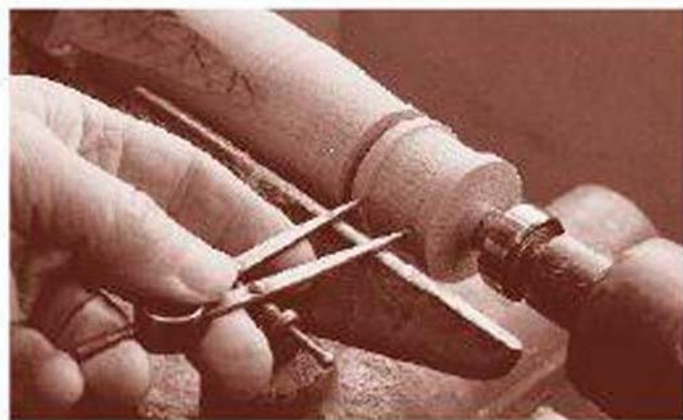

FIGURE 13-6
- 4** To make the drum and spacers, swiftly turn the wood down to a $1\frac{1}{2}$ "-diameter cylinder, and then use the dividers to step off the guidelines that make up the drum. From right to left along the length of the wood, allow a small amount for tailstock waste, about $\frac{1}{4}$ " for the first rim, about 1 " for the central area, and another $\frac{1}{4}$ " for the other rim (Fig 13-6). In fact, the spacing isn't too important, as long as the total length of the drum is as near as possible to $1\frac{1}{2}$ ". Sand the drum to a good finish, and then part off from the lathe.